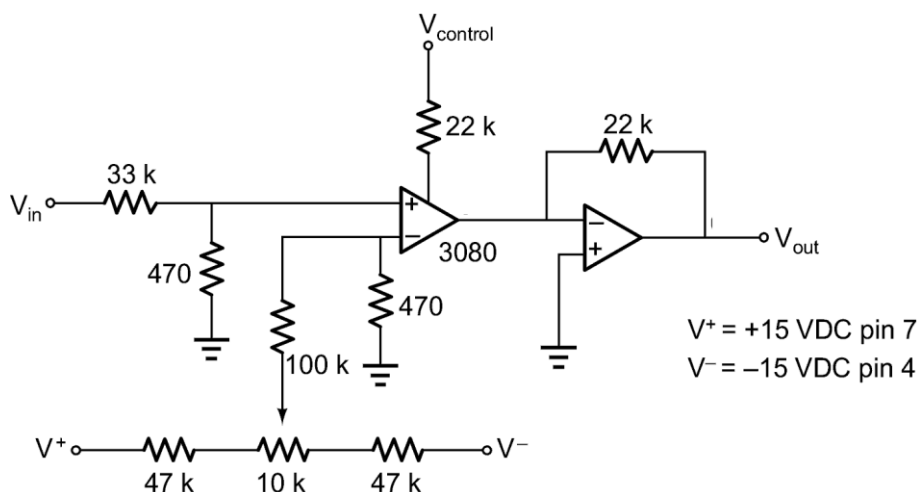

Figure 1
1. Assemble the circuit of Figure 1. Note that the power supplies are only $\pm 5\text{ VDC}$, not the usual $\pm 15\text{ VDC}$.